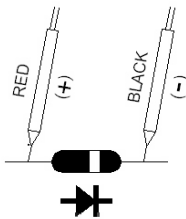

Fig. 2
- 4) a. When connected with polarity as shown in Fig. 2, a forward current flow is established and the approx. Diode Forward Voltage (VF) value in volt will appears on the display reading. If the diode under test is defective, " .000 " or near " .000 " value (short circuit) or " OL " (open circuit) will be displayed.